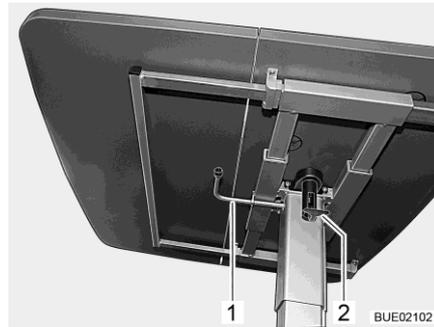

Fig. 131 Lift-off table
- Fold down the catch lever (Fig. 131,2).
- Swivel the lever (Fig. 131,1) underneath the table top by 180° in a clockwise direction. The lifting mechanism in the table leg is unlocked.
- Swivel the lever (Fig. 131,1) underneath the table top by 180° in a clockwise direction. The table top moves automatically upwards to the limit stop.